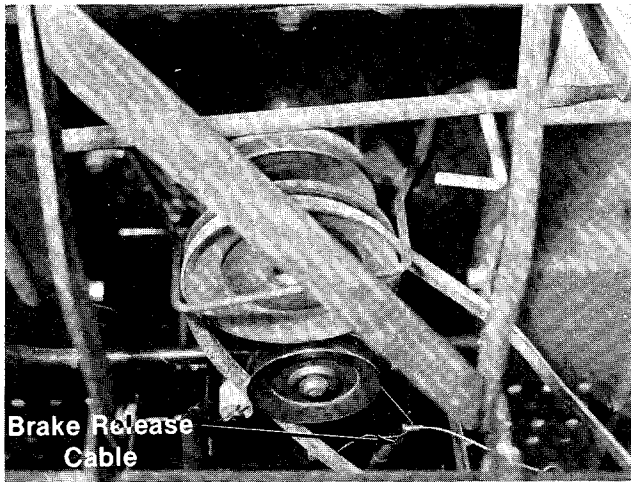

FIGURE 8.
8. Place the deck belt around the engine pulley and idler. (See figure 8.)